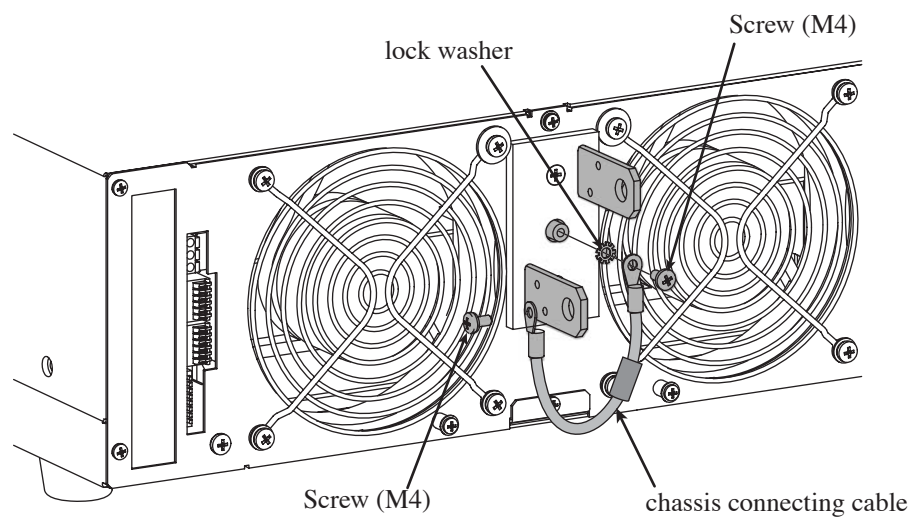

Fig. 3-10 Connection of chassis connecting cable
3. Using the accompanying chassis connecting cable, connect the chassis terminal to the - (neg.) or the + (pos.) output terminal. See Fig. 3-10.
In general, to connect a load to the auxiliary output terminal, connect the chassis terminal to the - (neg.) or + (pos.) output terminal. For information on connections, see Fig. 3-10.